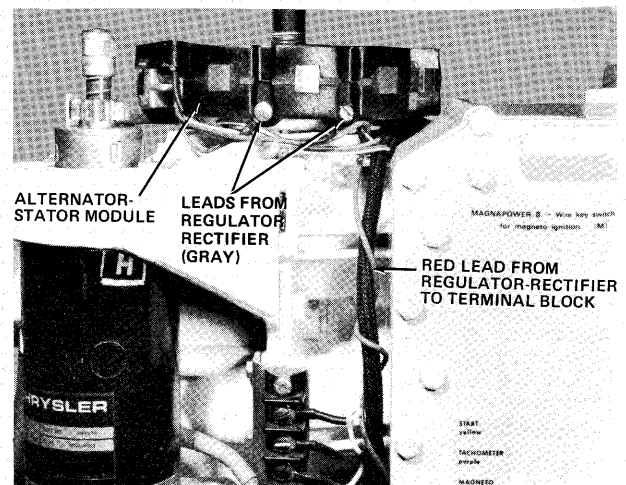

Figure 22 - Connecting Regulator-Rectifier Leads
- B. Install two (2) screws and lockwashers securing regulator-rectifier leads to alternator module as shown in figure 22. Install one (1) screw securing (red) regulator-rectifier lead to terminal block and secure.